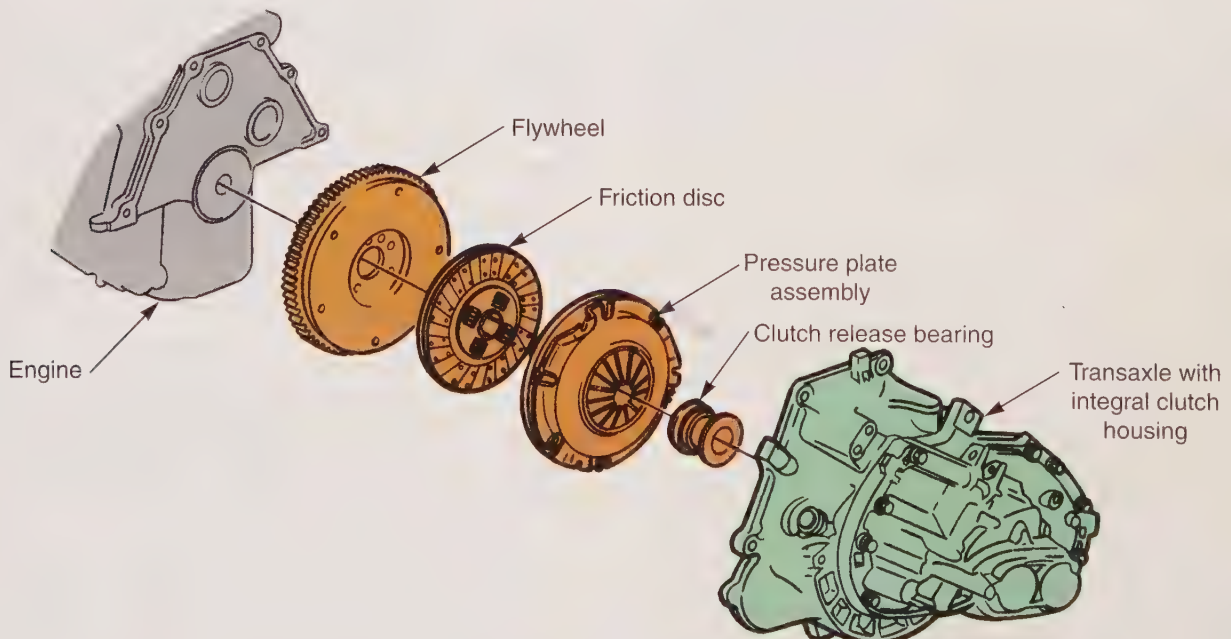

Figure 7-20. The clutch housing and transaxle case are usually combined into a single casting. (General Motors)
5. Remove the transaxle. (This is covered in detail in Chapter 11.) On many vehicles, the transaxle and clutch housings are a single unit, **Figure 7-20**. If this is the case, the complete unit is removed from the engine. On vehicles requiring the engine also be removed for clutch replacement, refer to the manufacturer's service manual.